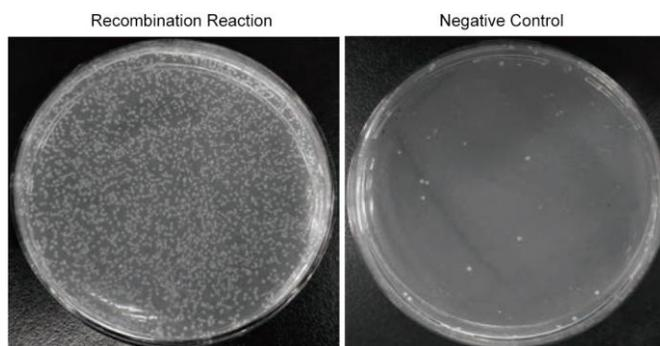

Fig 1. Plate incubated overnight
- 6.1 After overnight culture, hundreds of mono-colonies will form on the transformation plate of recombination reaction, whereas fewer of those on the transformation plate of negative control (Fig 1).